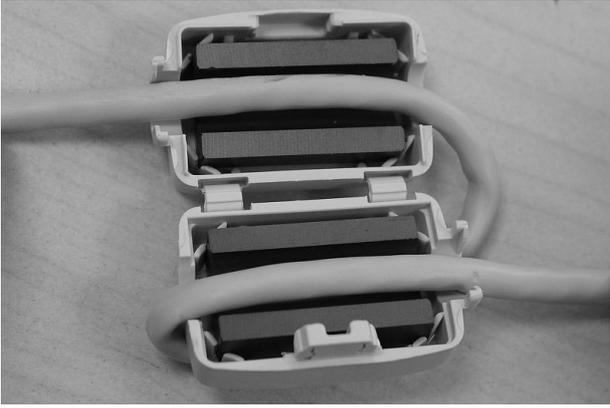

Figure 6-6. Placing the cable into the ferrite core
- Form a loop and route the cable through the open ferrite core (Figure 6-6).